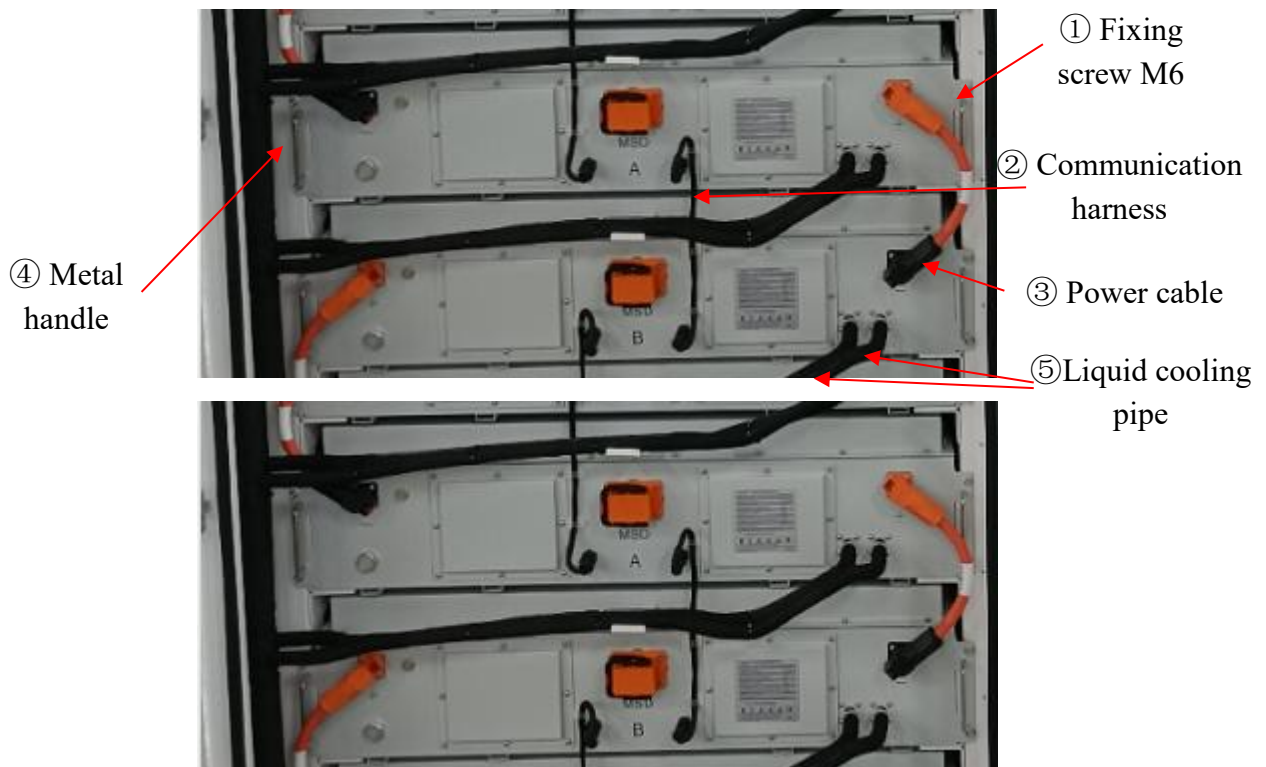

Fig.5.2 Battery module power and communication connection
- (1) Transport the new battery by trailer to the replacement battery attachment
- (2) Multiple people carry battery metal handle④, lift the battery and push into the battery rack.
- (3) Adjust the $\phi 6$ socket torquee to $5N \cdot m$, and fasten the four fixing screw M6①
- (4) Connect the power cable③ according to Fig. 5.2.
- (5) Clean up the scene, organize the tools